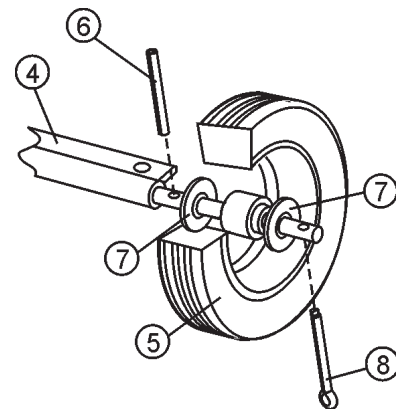

Figure 2. Stationary Axle Assembly
2. Assemble the stationary axle (Figure 2)- Push the roll pin through the inner axle hole. Slide a flat washer onto the axle shaft, then put the wheel on the axle. Push the wheel flat against the washer and roll pin and slide a flat washer against the wheel. Then insert the cotter pin through the outer axle hole to secure the wheel on the axle.